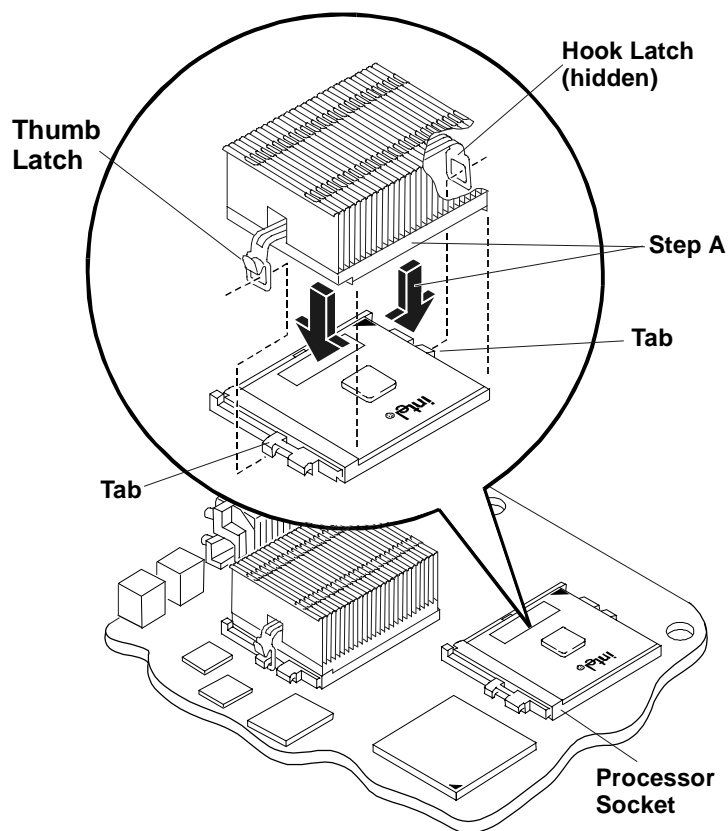

Figure 6-5. Placing the Heatsink on the Processor
- a. Orient the heatsink with the tool latch facing left, as shown in Figure 6-5 following in this Product Update. Lower the heatsink squarely onto the processor.